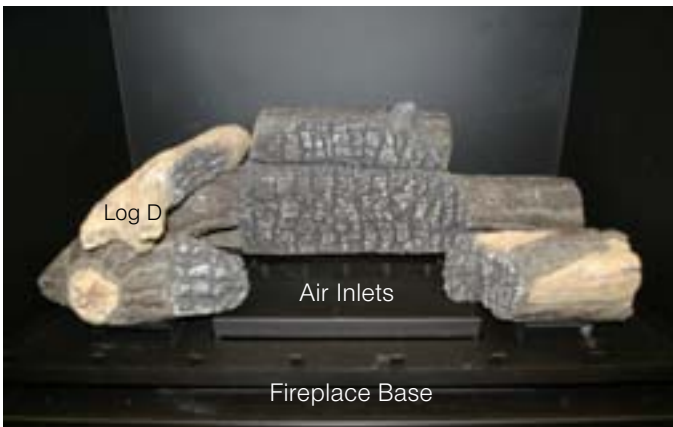

Figure 25b. Top Left Log, (Log D).
Step 3. Place the bottom Right log (Log B) and bottom Left Log, (Log C) as shown in **figure 25b**.